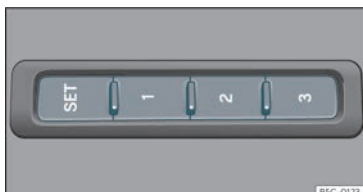

Fig. 104 On the outer side of the driver's seat: memory buttons.
» **Fig. 104.**
- Press and hold the **SET** button»» **Fig. 104** .